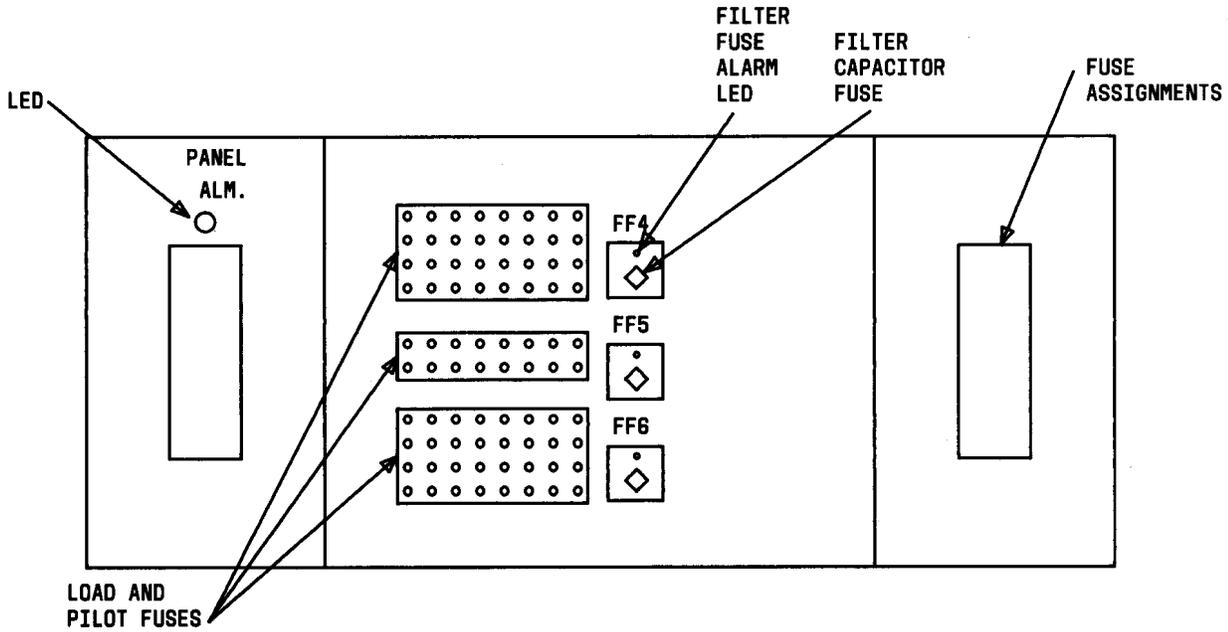

Fig. 2—Filter-Fuse Panel Assembly
2.03 The power distributing frame may be equipped with one to five fuse panels. Refer to Table B for a complete list of controls, indications, and fuses. Each fuse panel has 40 load fuse and alarm indicating fuse positions (see Fig. 2). Three large filter capacitors are connected in parallel across the input bus on each fuse panel. The capacitors protect the load by filtering out transients and noise. The battery connection is made at the fuse block bus, and battery return or ground is made at the common ground bus of the filter capacitor bank on the panel. Each of the 40 fuse alarm leads is connected to the common alarm LED which is mounted on the left side of the fuse panel (Fig. 2). Each of the three filter capacitors in the fuse panel is charged through a 20-ampere fuse and monitored by a LED.